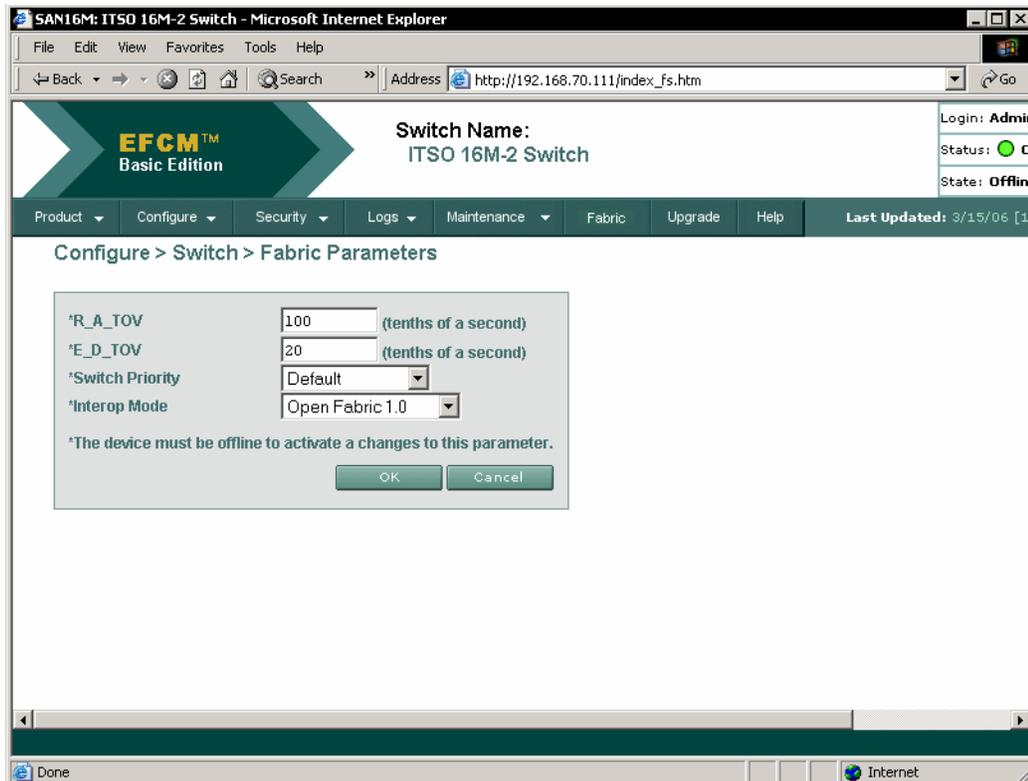

Figure 0-34 EFCM Basic - Fabric Parameters view
6. To configure fabric parameters click **Configure** and select **Switch** and **Fabric Parameters** to display the Fabric Parameters view displayed in Figure 0-34.